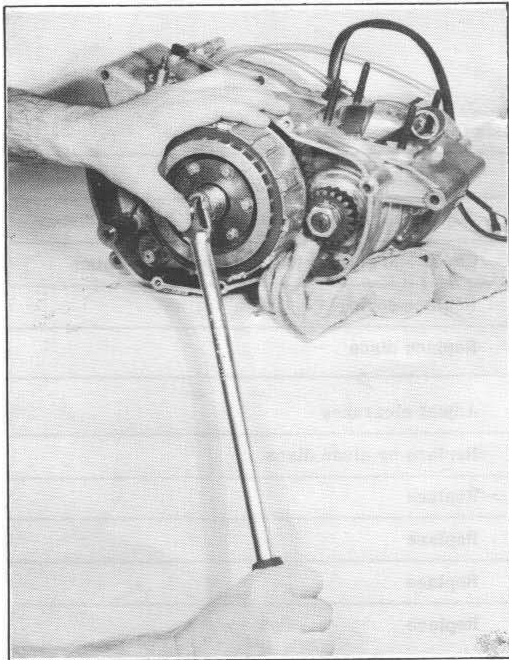

Figure 4.4. Removing Clutch Hub Nut
Uncrimp tabs of locking washer (5). Jam a rag in gears as shown in Figure 4.4 so gears cannot turn and remove nut (6) from mainshaft. Note that if an impact wrench is used, rag may not be necessary.